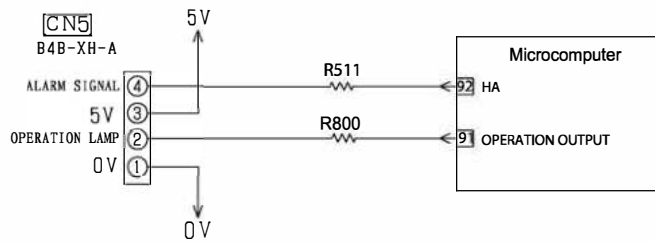

Fig.12-1
Fig.12-1 is the control circuit of run status and signal output in main PWB. The pin ② of CN5 is used to show run status and the pin ④ of CN5 is used to warn people when failure occurrence. If customer want to use this function, need to use the adapter (sold separately) to achieve it. the adapter is optional and the detail circuit refer to following circuit.